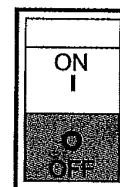

Figure 20. Main Circuit Breaker (OFF)
3. **NEVER** start the engine with the main circuit breaker in the **ON** position. Always place circuit breaker (Figure 20) in the **OFF** position before starting.